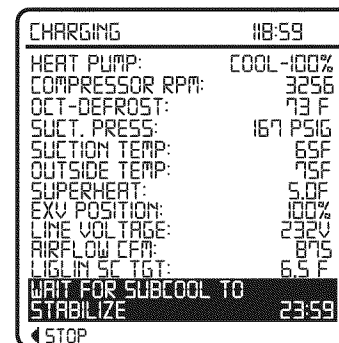

Fig. 10 - Liquid Line Subcooling Target
5. Wait for the specified stabilization time, depending on lineset length. Compare subcooling at liquid line service valve to Liquid Line Subcooling Target as shown CHARGING screen (LiqLin SC TGT) (see Fig. 10).